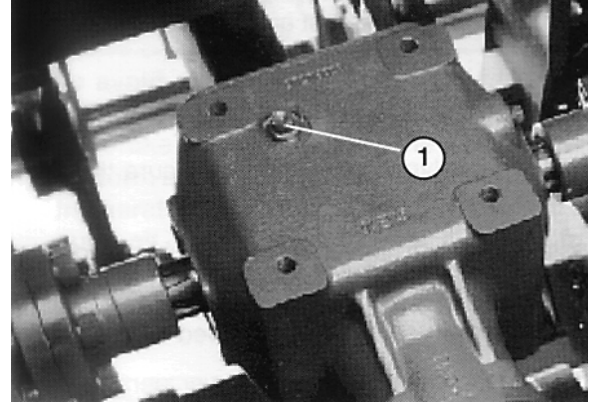

Figure 1
1. With machine on level surface, remove oil fill/dipstick plug from gear case (Fig. 1).